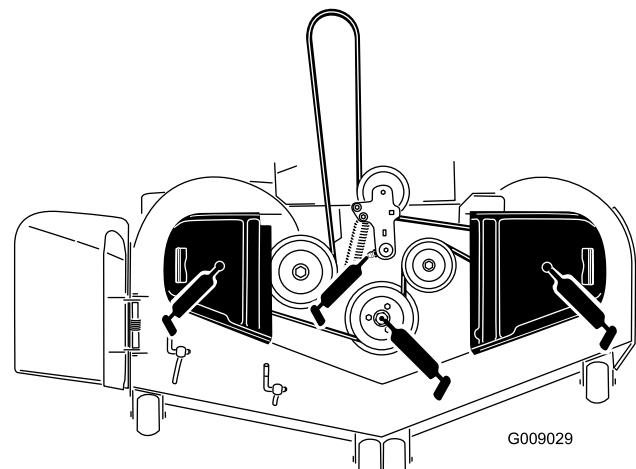

Figure 41
3. Grease the mower deck idler pulley pivot until grease comes out the bottom (Figure 41).
4. Grease the fittings on the side of the 3 spindle bearings until grease comes out the bottom (Figure 41).
5. Grease the drive belt idler arm (Figure 41).